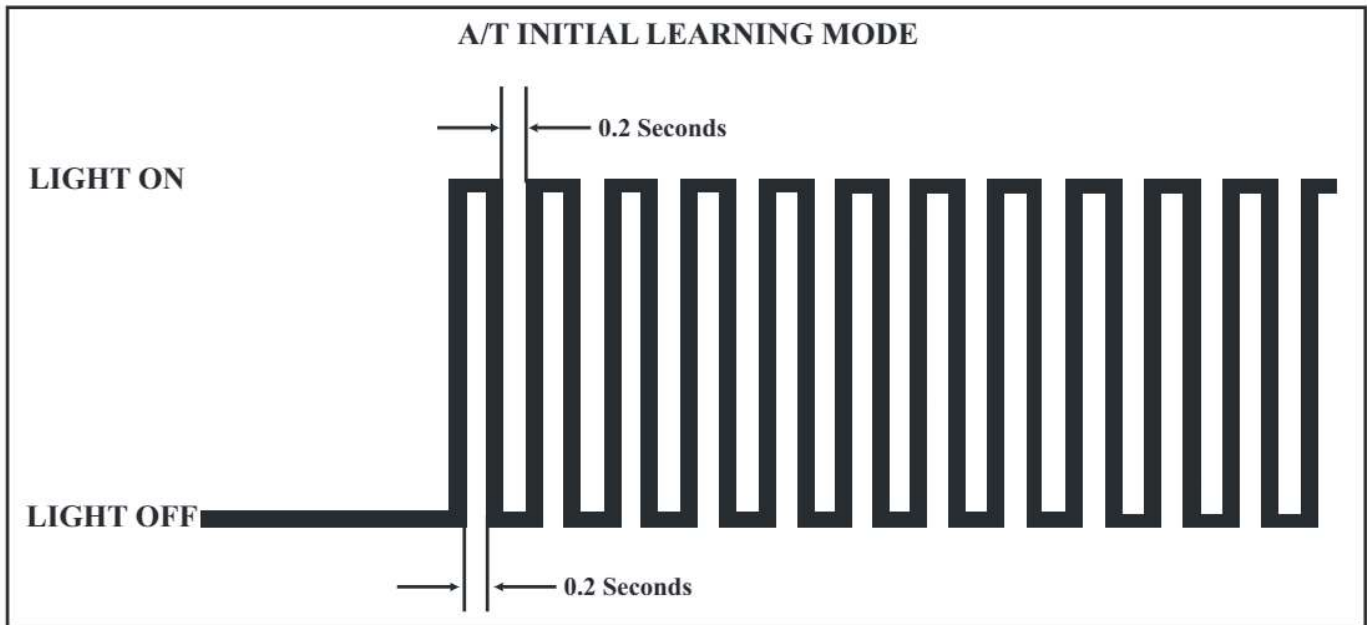

Figure 87
- 5 - Check to see that the A/T oil temperature warning lamp is flashing at 0.2 second intervals as seen by the flash pattern in Figure 87.